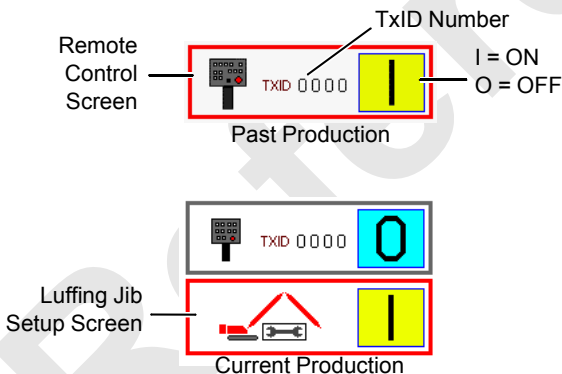

FIGURE 3-29
3. The screen in Figure 3-29 will appear.